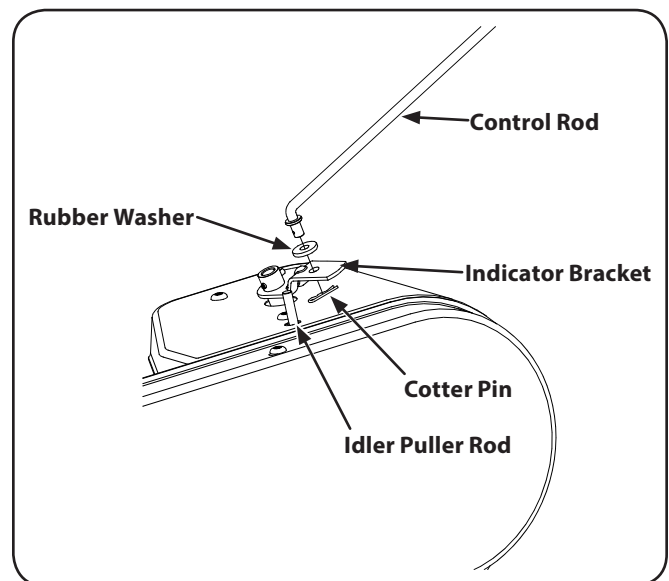

Figure 6-1
3. Remove the cotter pin and spring washer from the idler pulley rod. See Figure 6-1.